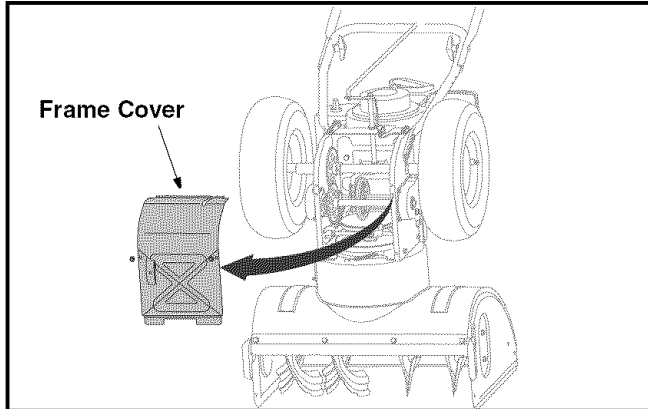

Figure 21
1. Remove the self-tapping screws from the frame cover underneath the snow thrower. Refer to Figure 21.
- Tip the snow thrower up and forward, so that it rests on the housing. Remove the self-tapping screws from the frame cover underneath the snow thrower and move the frame cover away. See Figure 21.
- Tip the snow thrower up and forward, so that it rests on the housing. Remove the self-tapping screws from frame cover underneath the snow thrower and move the frame cover away. Refer to Figure 21.